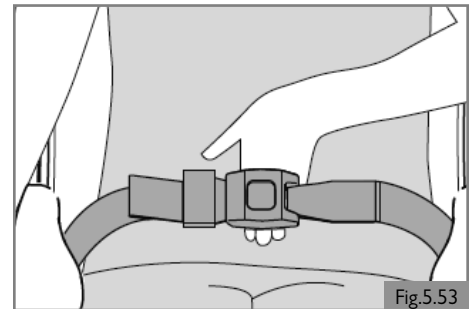

Fig.5.53
1. Adjust the lap belt to suit, leaving no more than a hand's width gap for comfort and safety. (Fig. 5.53)